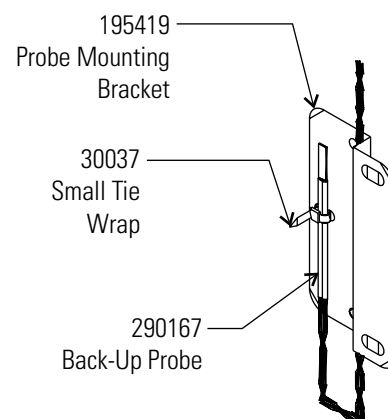

Figure 6-3. Secure Probe
2. As shown in Figure 6-3, thread the small tie wrap through the openings in the front of the bracket. Secure the probe on the back of the bracket with the tie wrap.